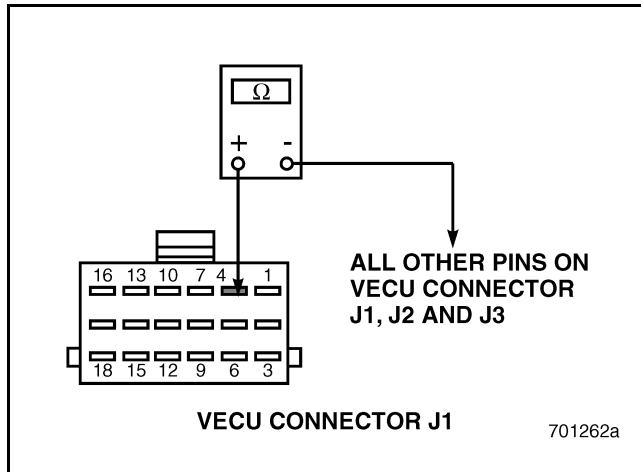

Figure 509
4. Check for continuity between VECU connector J1 pin 4 and all other pins on VECU connectors J1, J2 and J3 (see Figure 509).